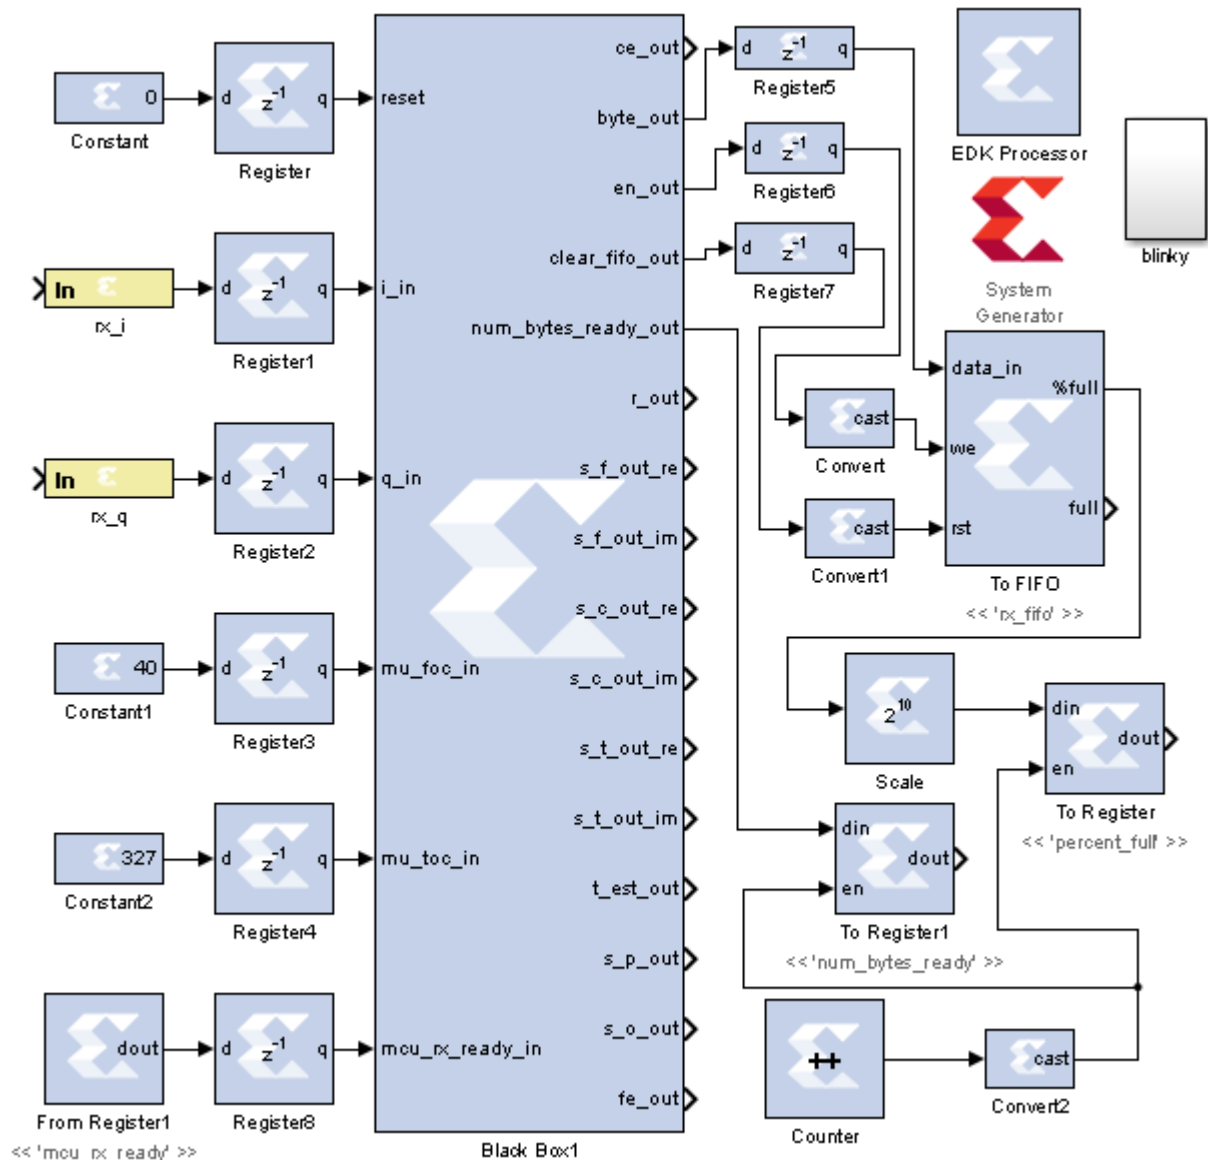

Figure 2-2: Simulink model for receiving DC Offset output
The **Simulink model**³ In Figure 2-2 will be used for receiving the ADC output and decoding the QPSK waveform.
1. **Modify** the Simulink model `rx.slx` created earlier to look similar to Figure 2.2. The model is very similar to the one used in the previous labs.